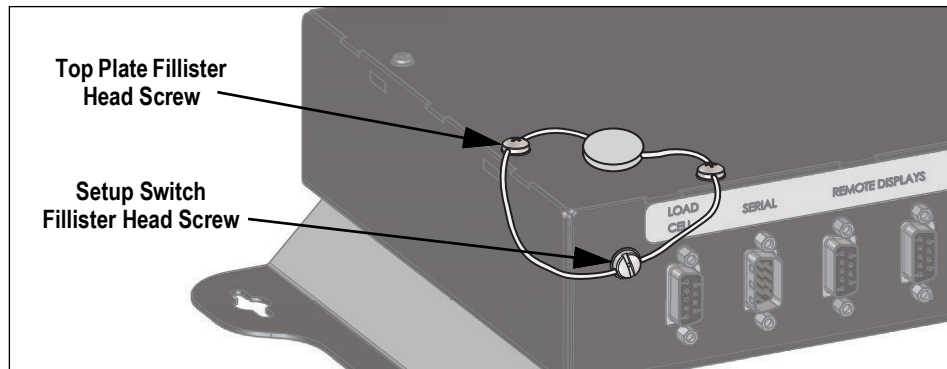

Figure 2-20. Sealing the Indicator – No Access
1. Navigate the sealing wire through the fillister head screws on the top plate and the fillister head screw on the side next to the DB-9 connectors (setup switch screw), as shown in Figure 2-20.